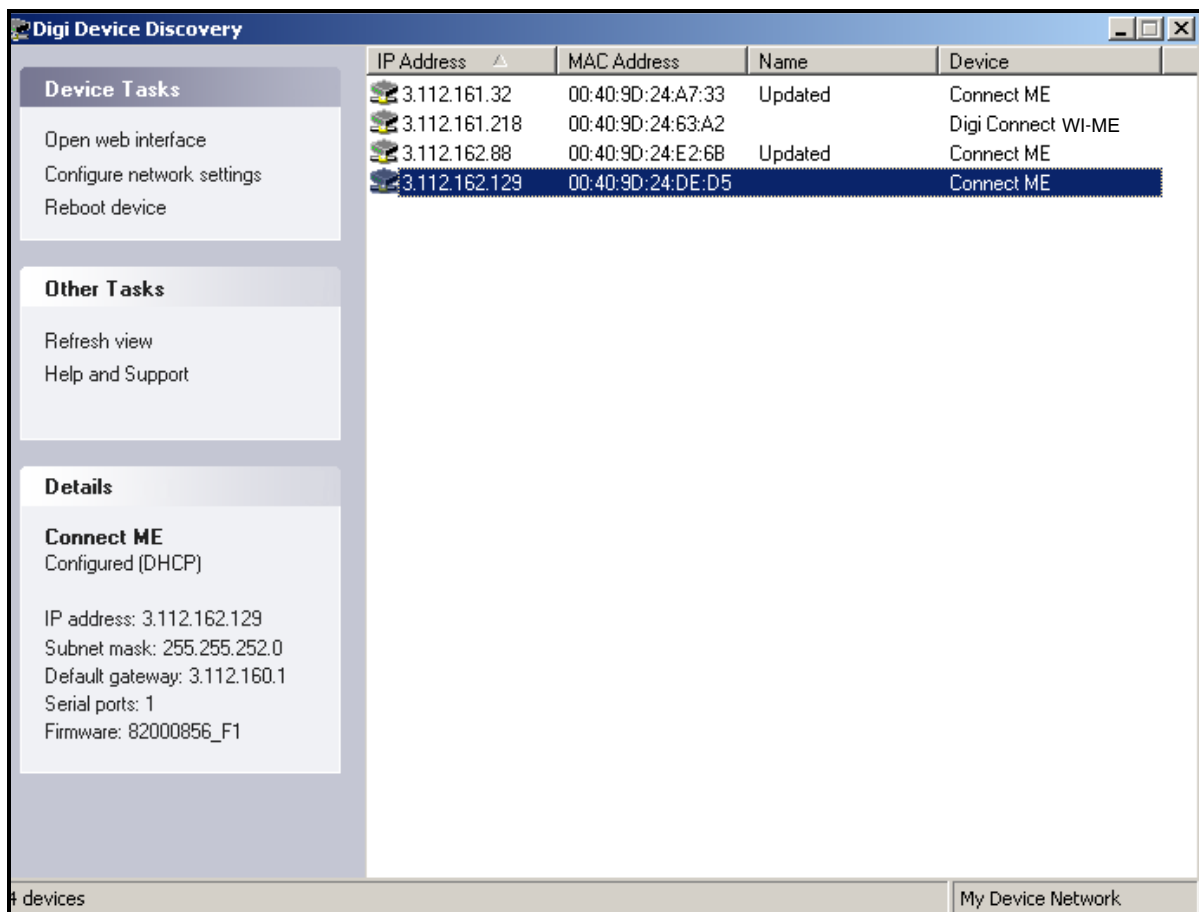

Figure 42: Finding the Assigned IP Address
1. Run the *Digi Device Discovery Program* (see Figure 42).